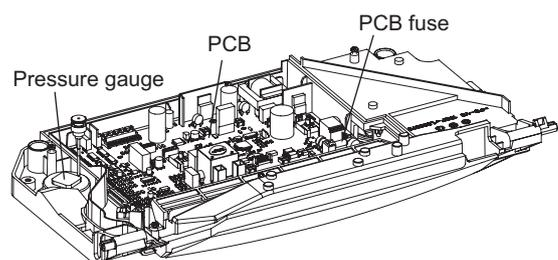

Fig. 7.2
## 7.7 FUSE - Fig. 7.2
### **7.8 PCB - Fig. 7.2**
2. Remove the three retaining screws in the PCB cover and remove cover. See Fig. 7.2.
### **7.9 PRESSURE GAUGE - Fig. 7.2**